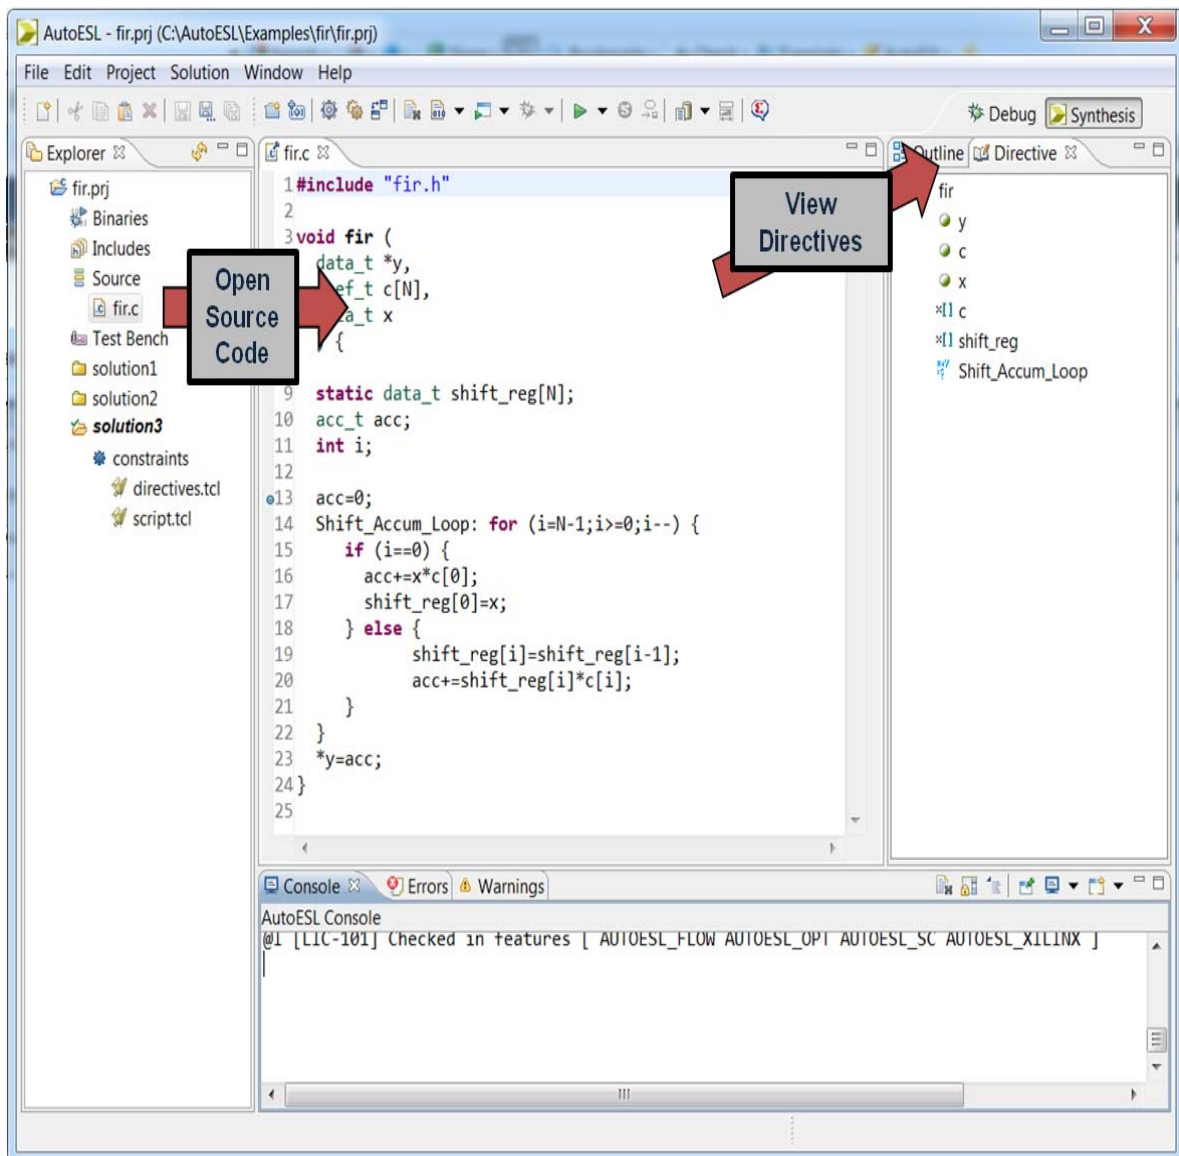

Figure 6-1: Adding Optimization Directives
1. In the Project Explorer, expand the source container in `solution3` (see Figure 6-1).
3. Activate the **Directive Tab** (see Figure 6-1).